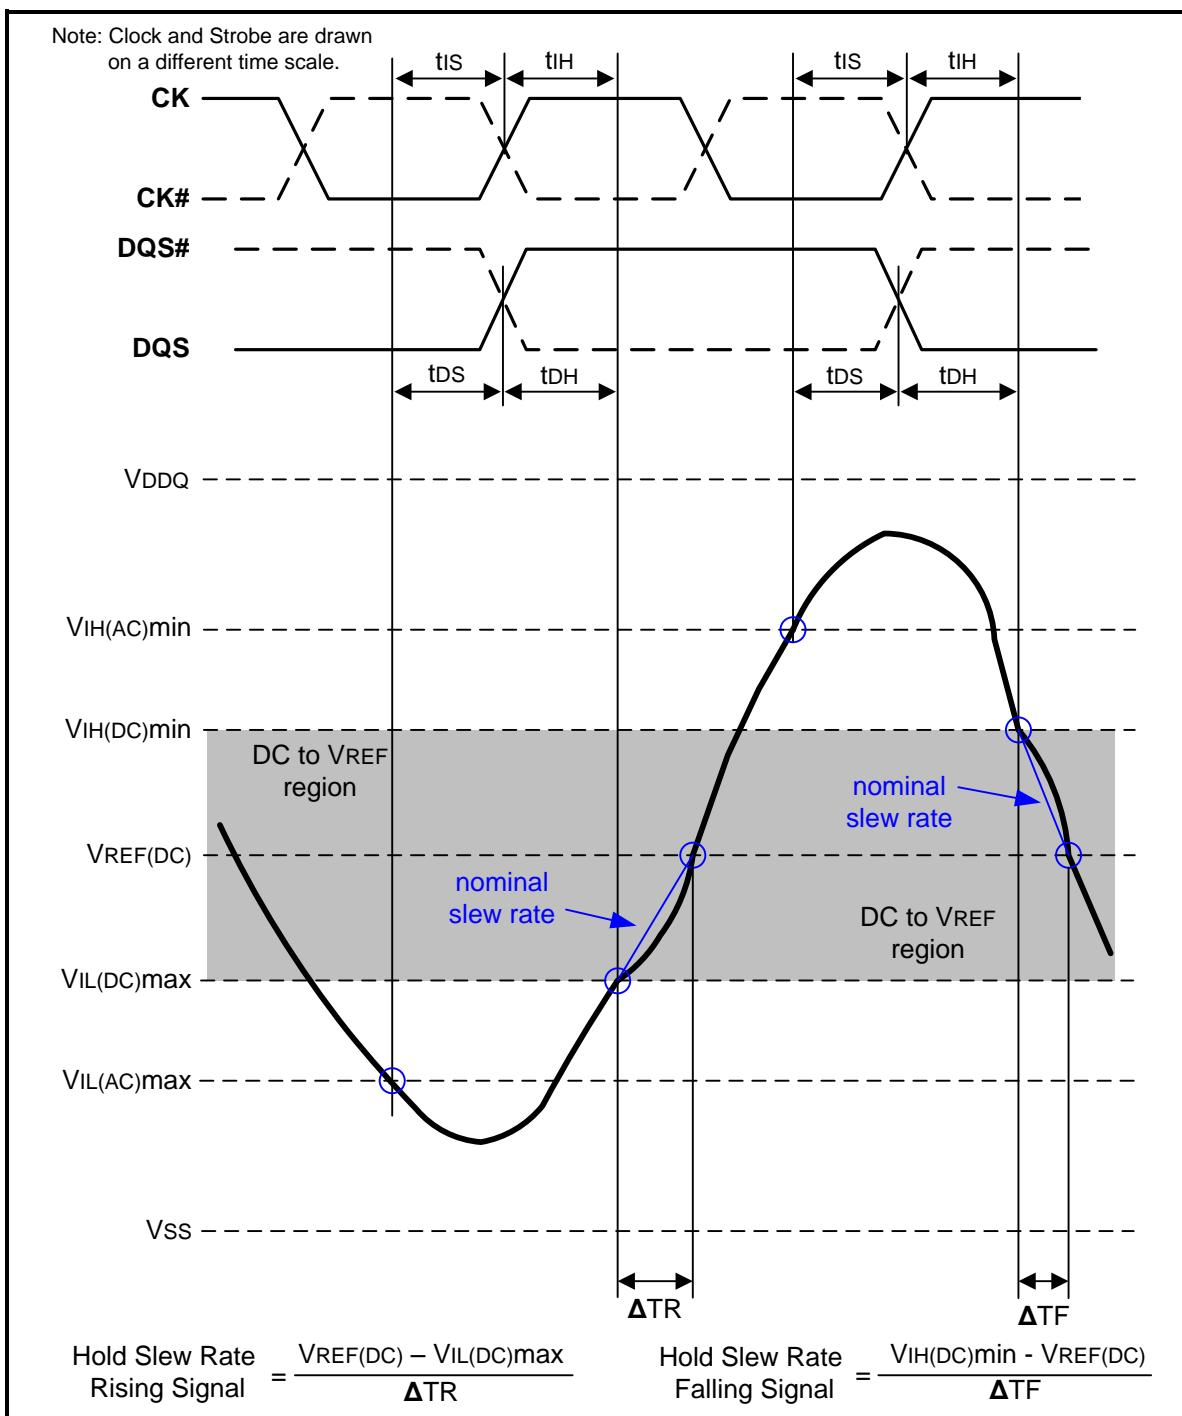
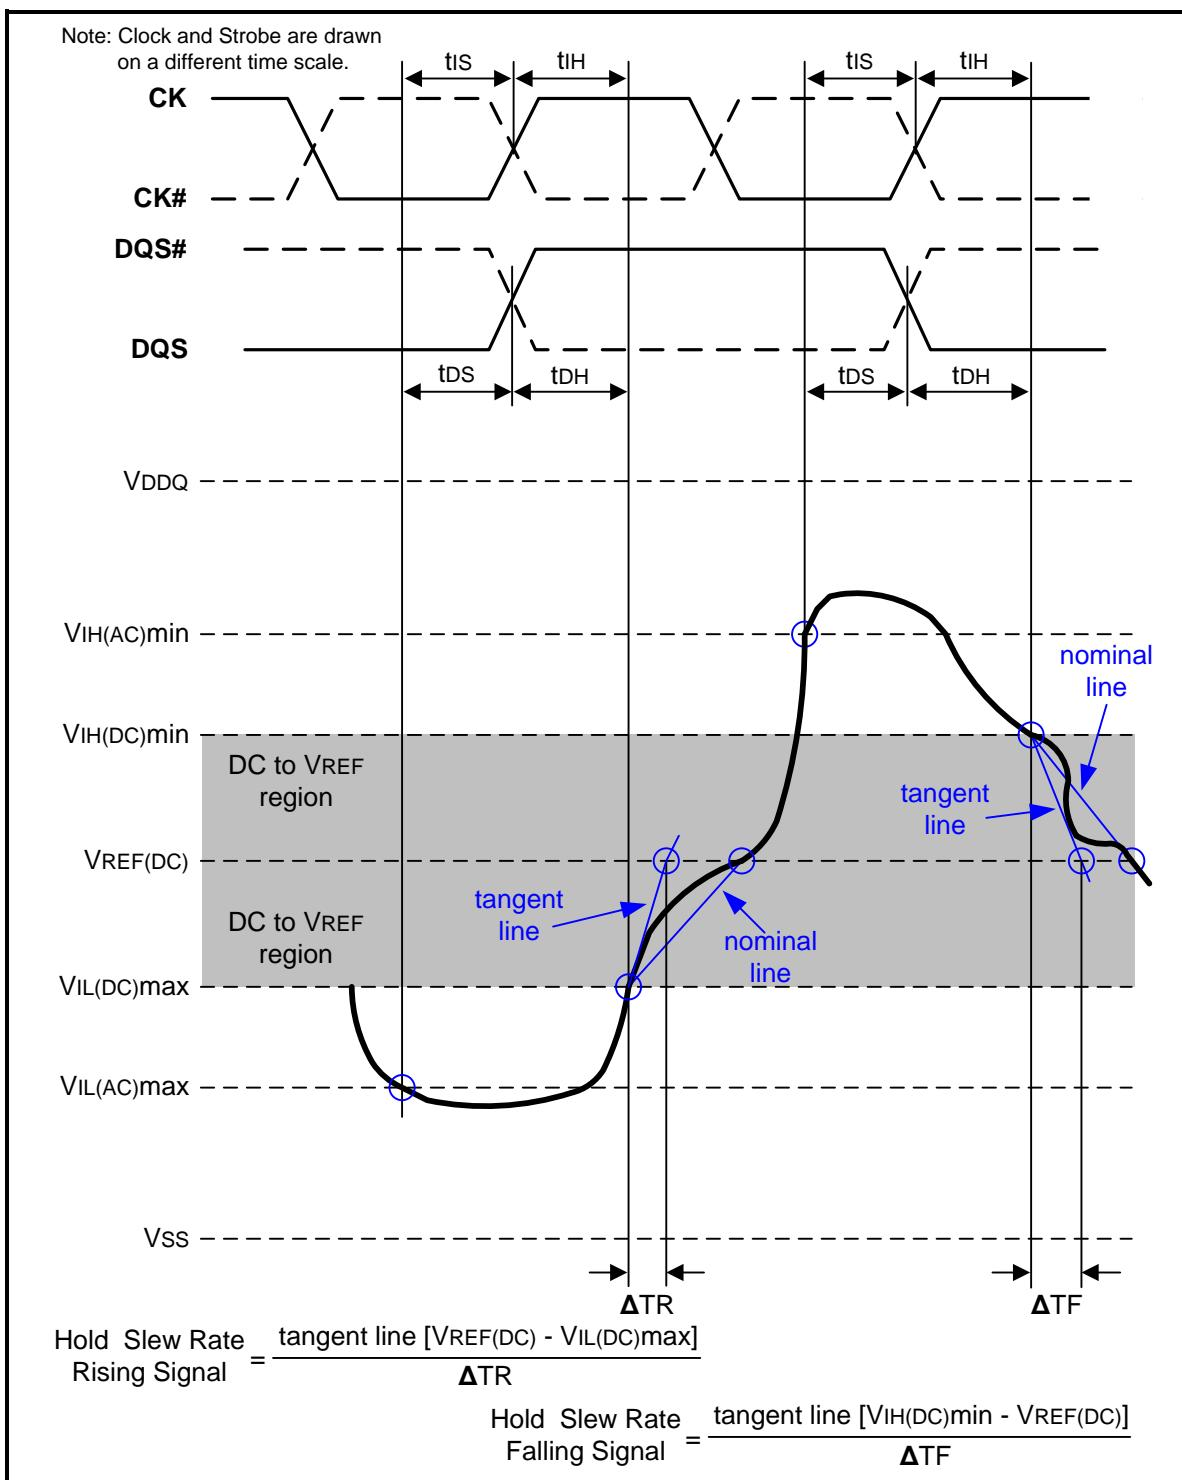

Figure 108 – Illustration of nominal slew rate for hold time t_{DH} (for DQ with respect to strobe) and t_{IH} (for ADD/CMD with respect to clock)
Figure 110 – Illustration of tangent line for hold time t_{DH} (for DQ with respect to strobe) and t_{IH} (for ADD/CMD with respect to clock)
Hold (tIH) nominal slew rate for a rising signal is defined as the slew rate between the last crossing of VIL(DC)max and the first crossing of VREF(DC). Hold (tIH) nominal slew rate for a falling signal is defined as the slew rate between the last crossing of VIH(DC)min and the first crossing of VREF(DC). If the actual signal is always later than the nominal slew rate line between shaded 'DC to VREF(DC) region', use nominal slew rate for derating value (see Figure 108). If the actual signal is earlier than the nominal slew rate line anywhere between shaded 'DC to VREF(DC) region', the slew rate of a tangent line to the actual signal from the DC level to VREF(DC) level is used for derating value (see Figure 110).
Hold (tDH) nominal slew rate for a rising signal is defined as the slew rate between the last crossing of VIL(DC)max and the first crossing of VREF(DC). Hold (tDH) nominal slew rate for a falling signal is defined as the slew rate between the last crossing of VIH(DC)min and the first crossing of VREF(DC) (see Figure 108). If the actual signal is always later than the nominal slew rate line between shaded 'DC level to VREF(DC) region', use nominal slew rate for derating value. If the actual signal is earlier than the nominal slew rate line anywhere between shaded 'DC to VREF(DC) region', the slew rate of a tangent line to the actual signal from the DC level to VREF(DC) level is used for derating value (see Figure 110).